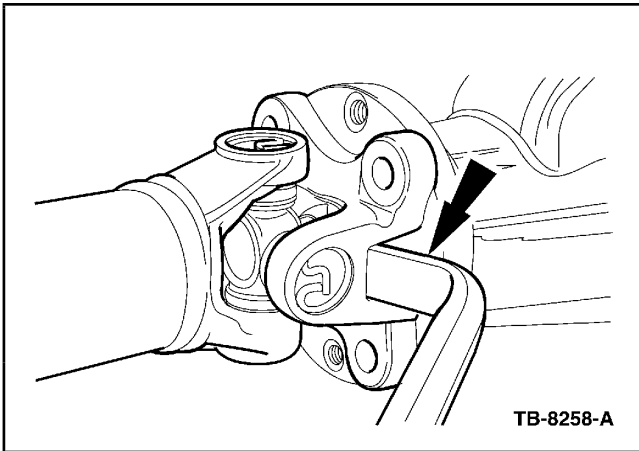

Figure 3 - Article 05-16-4
5. Using a suitable tool, disconnect the driveshaft flanges and remove the driveshaft (Figure 3).